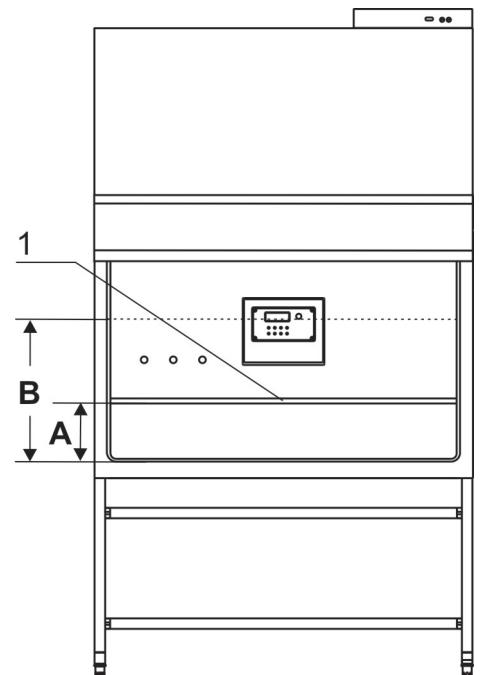

Fig. 6b
**Fig. 6b:** The electrically operated front window [1] is made of multi-layer safety glass and integral to the front cover frame. It can be raised to a maximum opening height **B** (480 mm). To access the sample chamber during the work process, the front window must stay in the work position with opening height **A** (200 mm).